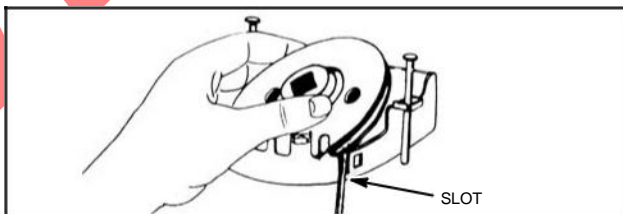

Fig. 591 – INSTALL PULLEY AND SPRING
10. Place pulley and spring in case with edge of spring in slot, Fig. 591.